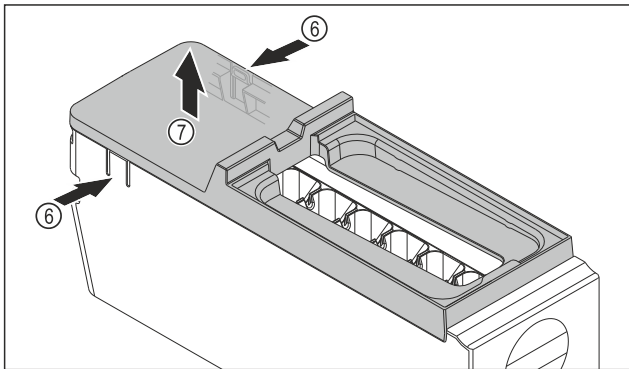

Fig. 111
- ▶ Removing the EasyTwist-Ice body cover: Push the tabs Fig. 111 (6) on both sides of the EasyTwist-Ice body with one hand.
- ▶ Use the other hand to remove the cover Fig. 111 (7) upwards.